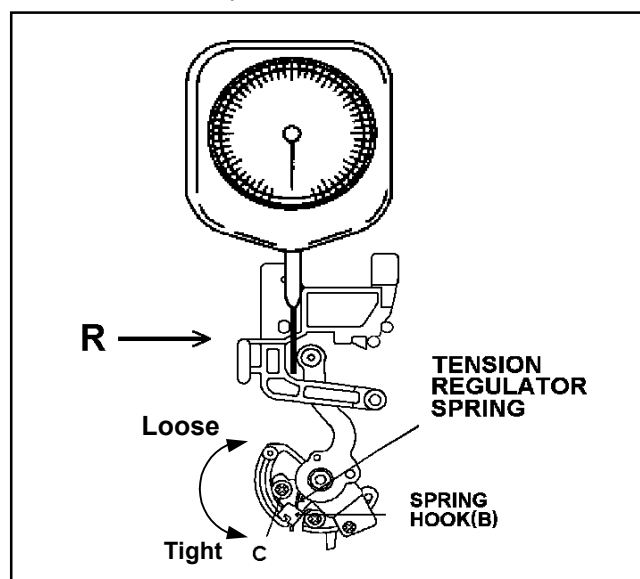

Figure 3-6-1
4. Push the tension post to the direction R by the tension gauge as shown in Figure 3-6-1 until the voltage at the test point becomes 3.8V (It means PLAY position). And then confirm the indication (tension) of gauge is in SPEC.
5. If it is out of SPEC, loosen the screw (C) and adjust the position of hook (B) so that the indication (tension) of gauge is within the specification.